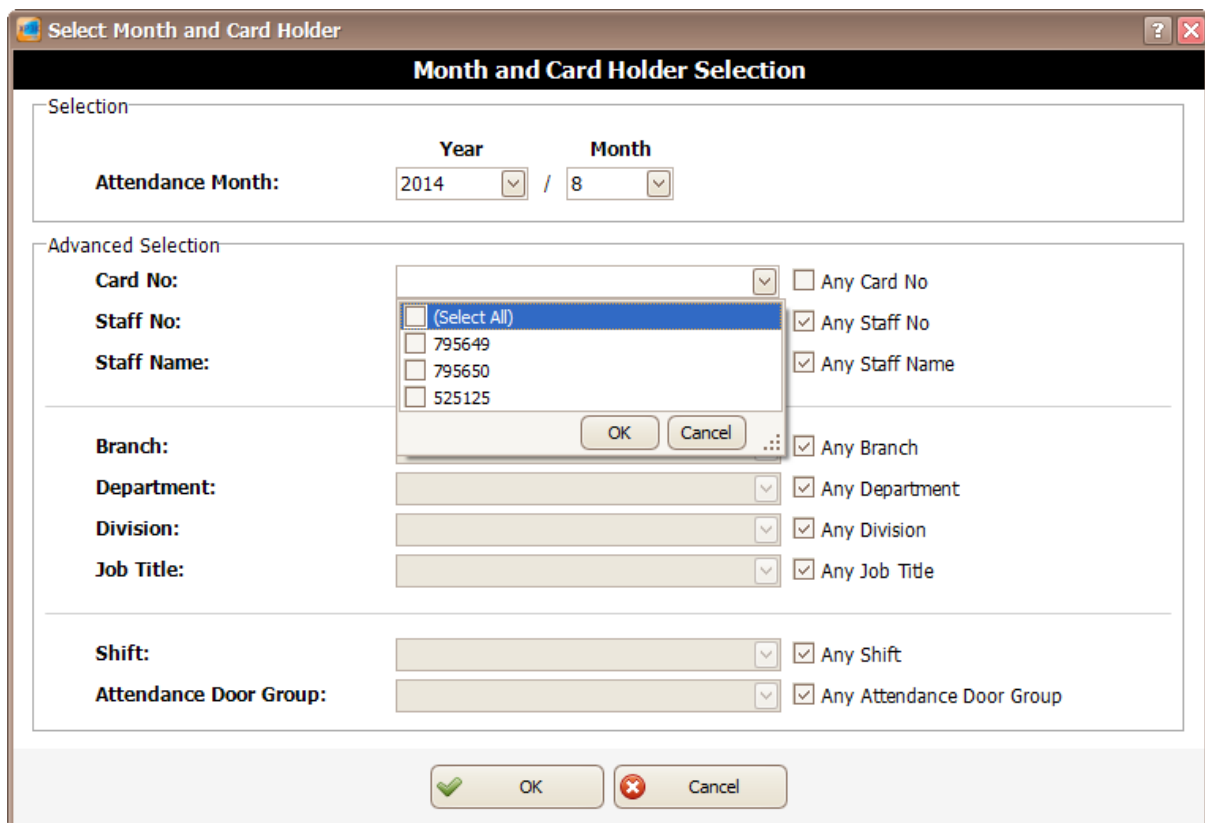

Figure 95 - Select Month and Card Holder
4. You can select Attendance Month to view the monthly attendance that you want. To select for specific card no, staff or branch, you can use the Advanced Selection. Uncheck the checkbox at the right side and use the drop down list to search for the cards that you want (*Refer Figure 95*). Click OK to continue.